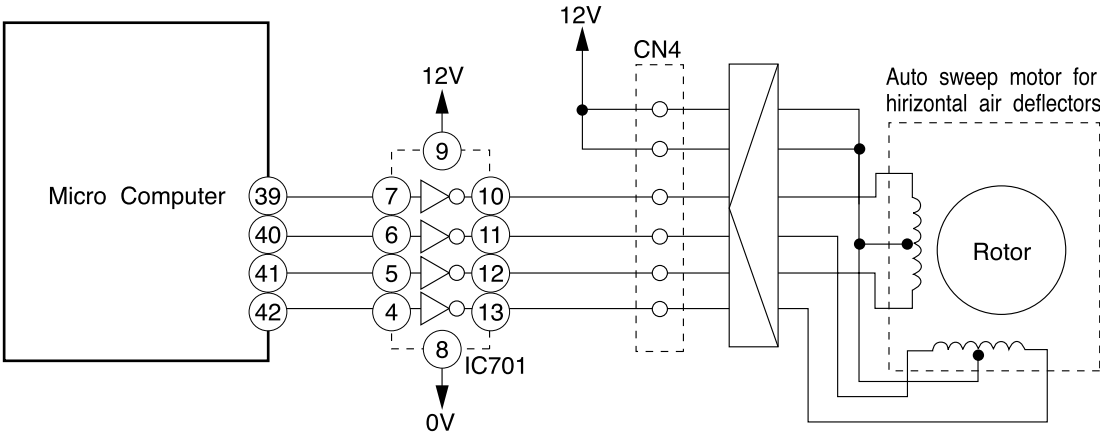
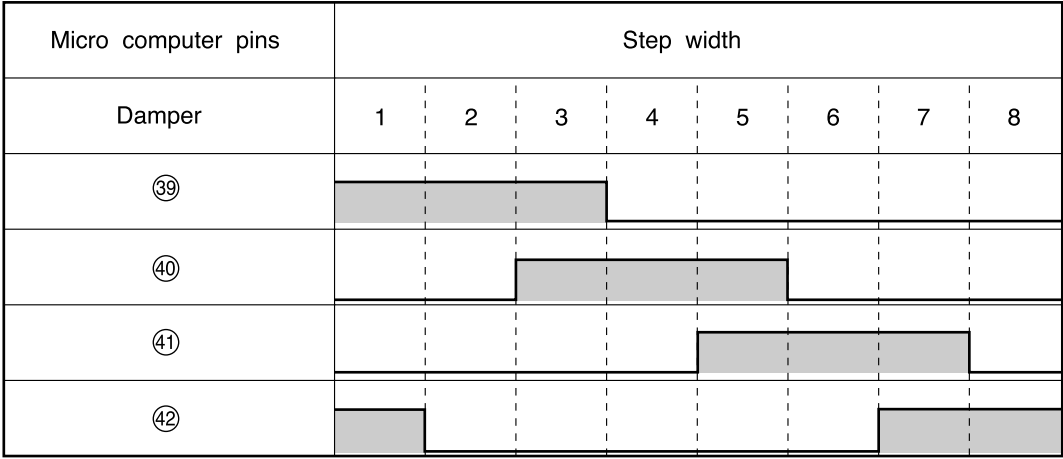

Fig.4-1 Auto Sweep Motor Circuit (Horizontal air deflectors)
Fig.4-2 Micro computer Output Signals
• Fig.4-1 shows the Auto sweep Motor drive cicuit; the signals shown in Fig.4-2 are output from pins ③⑨-④② of the micro computer.
• As the micro computer's outputs change as shown in Fig.4-2, the core of the stepping motor is excited to turn the rotor. Table 4-1 shows the rotation angle of horizontal air deflectors.